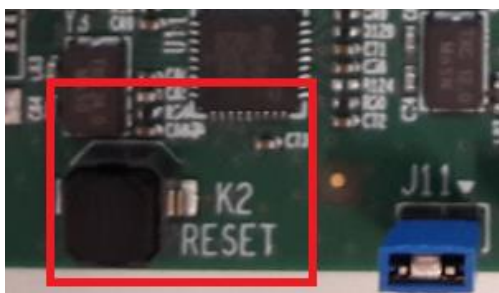
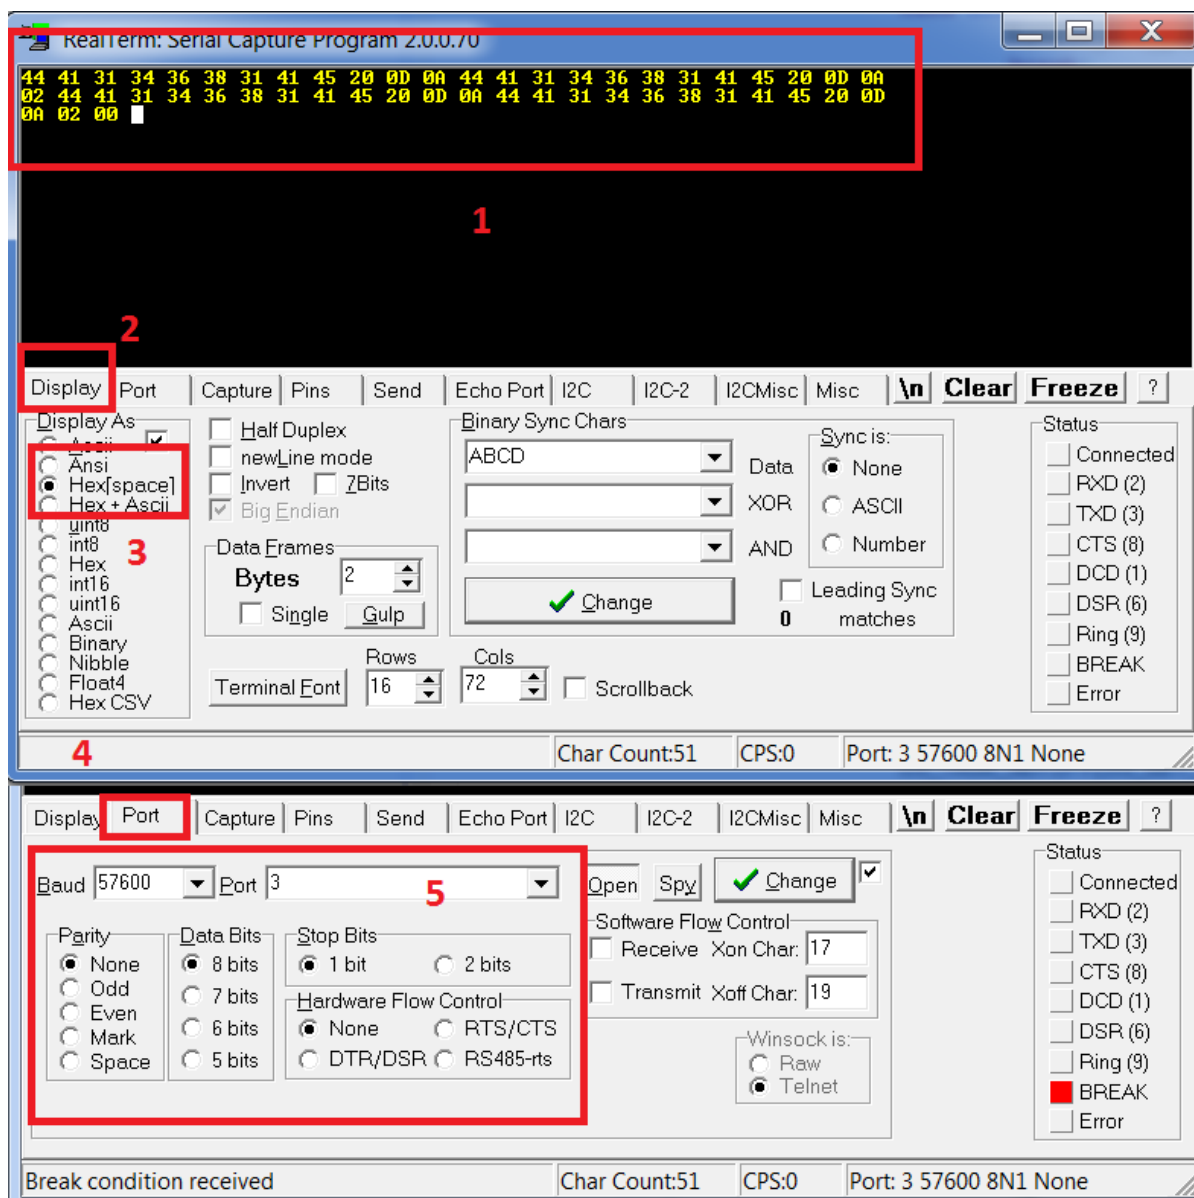

Figure 7: K2 RESET button in ProDK
Figure 8: Setting port and testing connectivity via RealTerm
3. Start a terminal software with HEX display capabilities (Figure 8, Reference points 2 and 3) (i.e. RealTerm)
4. Open the serial port (Figure 8, Reference points 4 and 5) which corresponds to ProDK UART1 (i.e. COM4 for Windows), using the parameters shown in Table 1:
5. Click $\kappa 2$ Reset button on the ProDK board as depicted in Figure 7. If terminal shows bytes (non-printable characters) similar to those presented in Reference point 1 in Figure 8 on every reset button push, the connection has been correctly setup and the programmer can be used (sometimes other characters bytes can be sent). The sequence shows in Figure 8 is a confirmation sequence corresponding to a correct setup confirmation. The sequence is generated by the Bootloader [7] and corresponds to an ASCII string with the chip version.